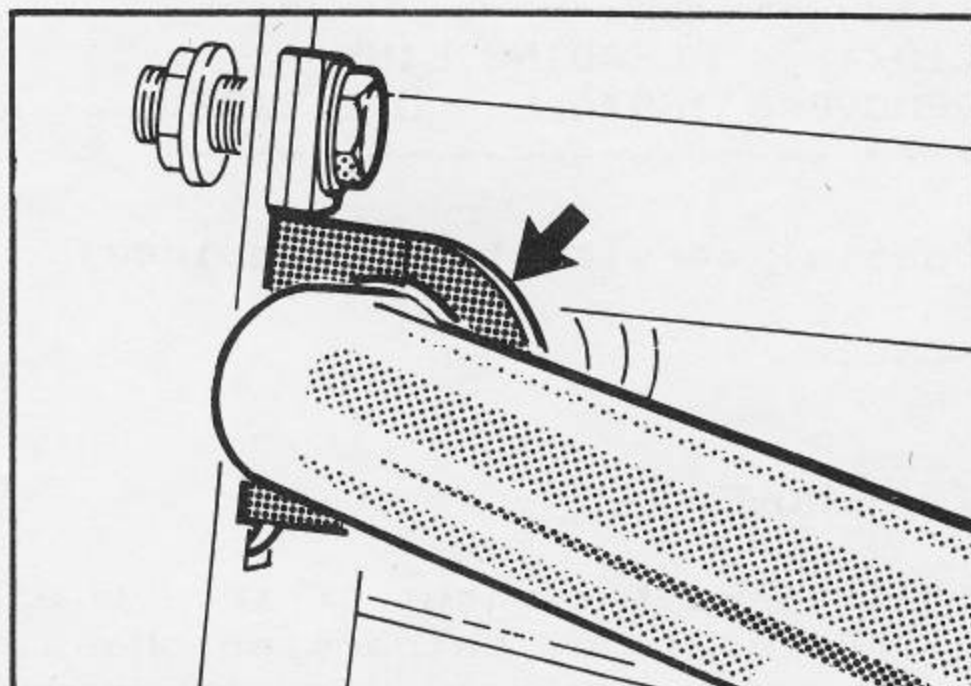

Fig.50 Remove anti-roll bar bush.
2. Remove old bush and slide new one over bar.Fig.50